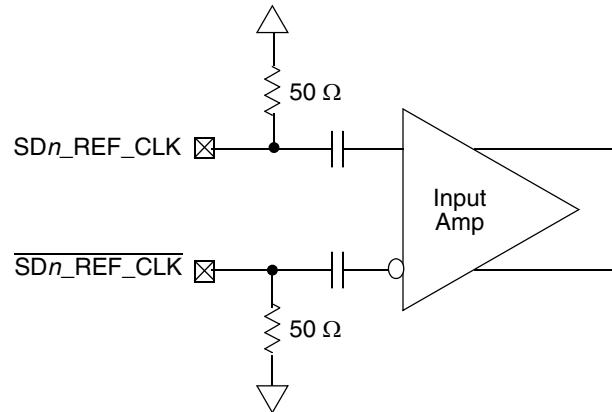

Figure 52. Receiver of SerDes Reference Clocks
Figure 52 shows a receiver reference diagram of the SerDes reference clocks.
- The SD_n_REF_CLK and $\overline{\text{SD}_n\text{_REF_CLK}}$ are internally AC-coupled differential inputs as shown in Figure 52. Each differential clock input (SD_n_REF_CLK or $\overline{\text{SD}_n\text{_REF_CLK}}$) has a 50 Ω termination to SGND_SRDS_n (xcorevss) followed by on-chip AC-coupling.